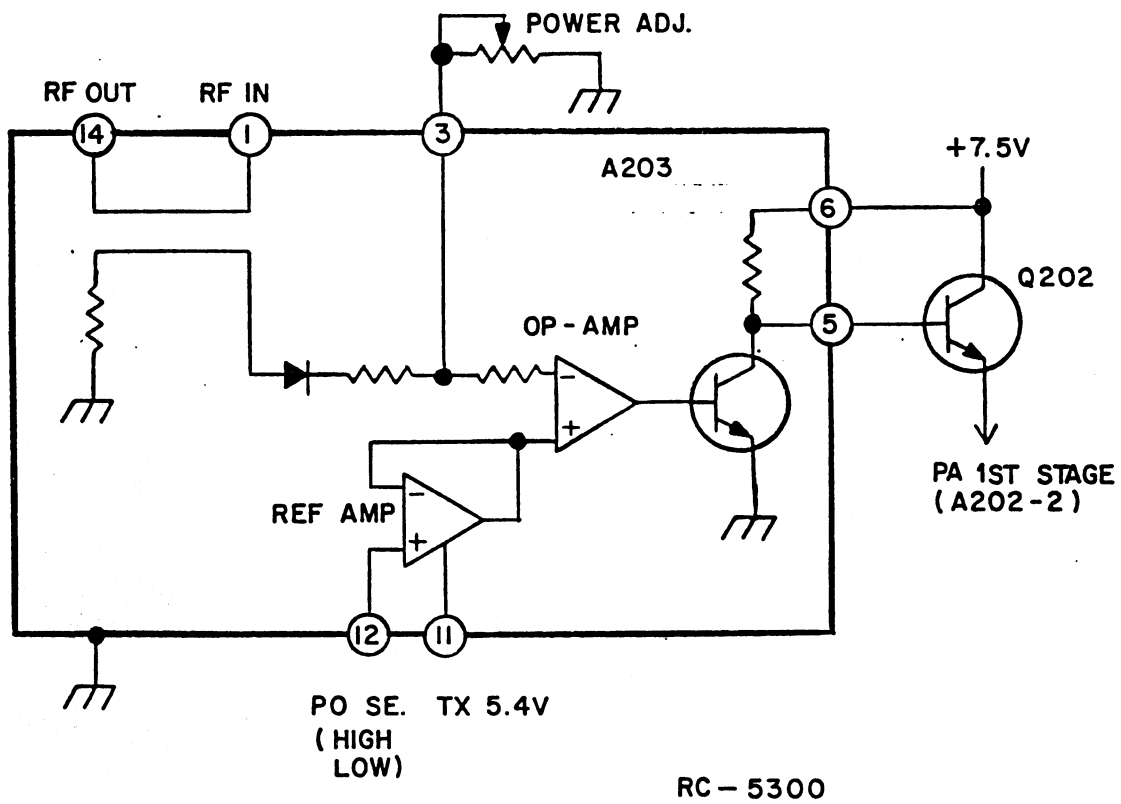

FIGURE 4 - POWER CONTROL MODULE (PC)
The RF power output of the radio is regulated by sensing variations in the RF power output of the transmit PA module to control the supply voltage going to the first stage of the PA module (refer to Figure 4). Supply voltage cannot be applied to the first stage of the PA module until the transmit circuit is keyed, applying 5.4 Volts to Pin 11 of Power Control (PC) hybrid IC A203. When the transmit circuit is keyed, the output of a reference amplifier, determined by the High-Low power control, is applied to the positive (+) input of a comparator.